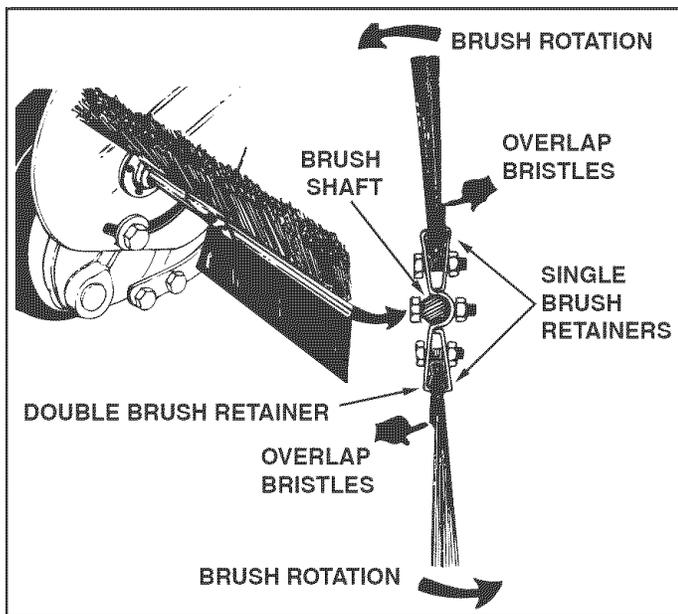

FIGURE 28
- Loosen the hex bolts and lock nuts on two single brush retainers which clamp one brush to the double brush retainers. **Do Not loosen** or remove the bolts which fasten the double brush retainers to the brush shaft. See figure 28.
- Slide the brush out of the retainers, noting on which side of the brush the bristles overlap. See figure 28.
- Install new brush, making sure the bristles overlap on the same side of the brush as before. See figure 28.